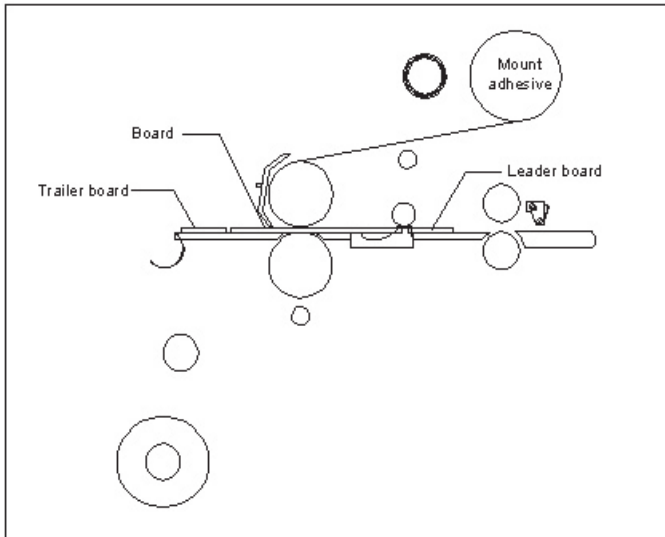

Fig 37
Tips for Pre-coating Boards (Figure 37)
1. Load the laminator as illustrated in Figure 37.